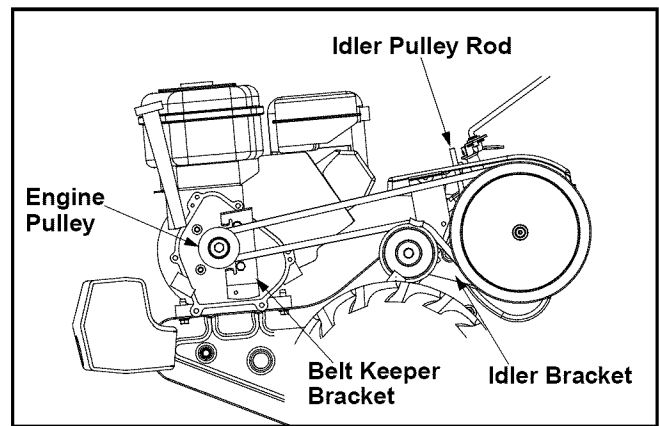

Figure 9
- Remove the hairpin clip and spring washer from the idler pulley rod. Refer to Figure 9.
- Remove the belt keeper bracket located behind the engine pulley by removing two hex bolts and lock washers. See Figure 9.
**NOTE:** Upon reassembly, make certain the belt is routed over the idler pulley and inside of belt keepers by engine pulley. See Figure 9.